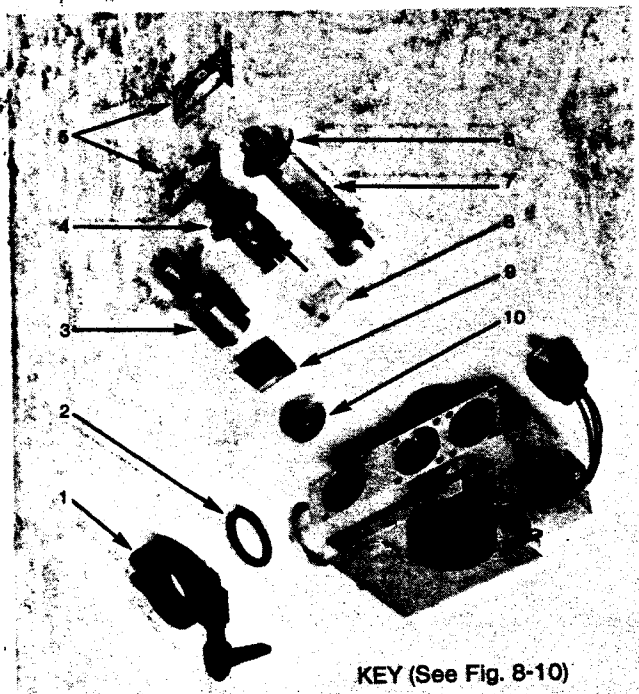

Figure 6-10. Spectrometer Tube
- a. Remove the spring and carefully lift out the jet assembly (Figure 6-10). Wipe excess oil from jet.